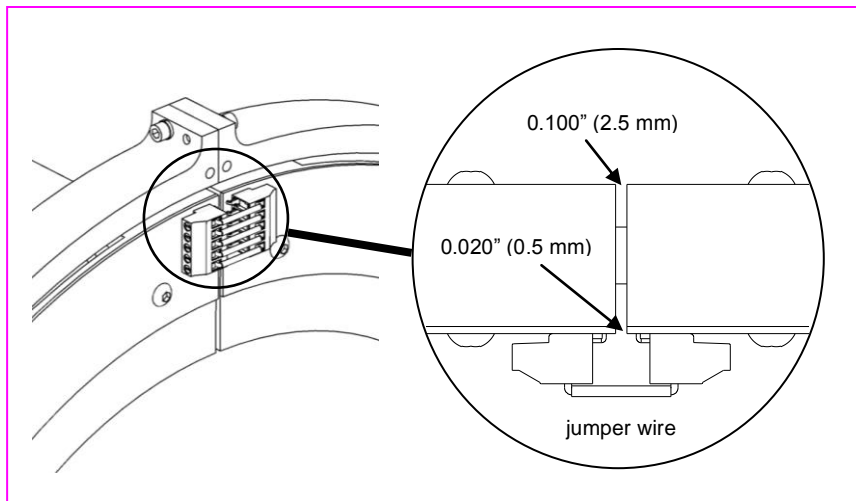
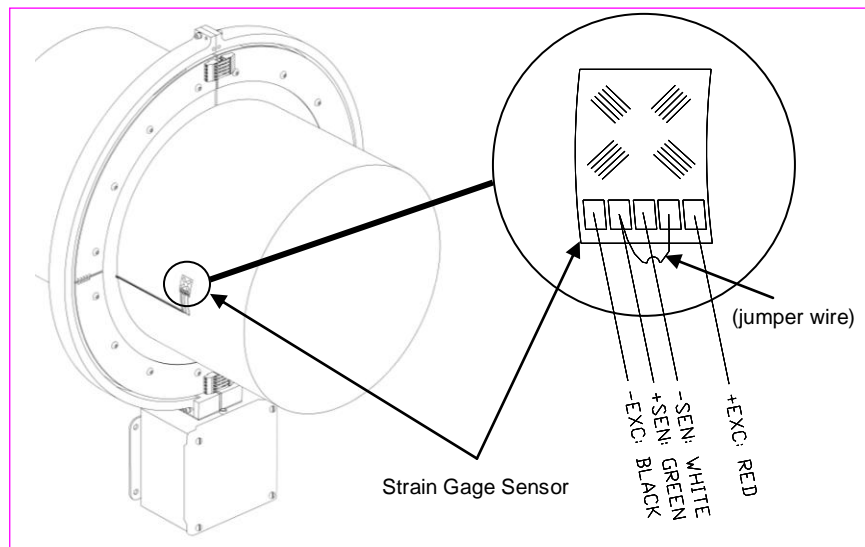

Figure 9 - Correct Collar Gap Spacing
Figure 10 – Strain Gage Connections
3. Apply anti-seize compound (provided) to threads of collar bolts. Assemble collar on shaft adjacent to gage with ribbon cable from collar leading towards gage. (Refer to Figure 1 on page 3 or Figure 10 on page 20.) Install opposing collar bolts from opposite directions to maintain balance. Tighten alternate bolts evenly until gap between collar halves is .100" (2.5mm) at all junctions. (See Figure 9 below.)
4. After collar is bolted on the shaft, place jumper wires (provided) in the screw terminal connectors at each collar junction as shown in Figure 9 and tighten securely.
6. Securely mount Master Control Unit to machine or mounting plate (not provided) so that the Rotating Collar is centered within the Power Ring. (Refer to Figure 1 on page 3 or Figure 10 on page 20.) For larger systems, use the Support Brackets provided to stabilize and support the Power Ring with additional braces.
12. Trim ribbon cable from Rotating Collar to length then connect (solder) cable to sensor. (Refer to Figure 10 below.)